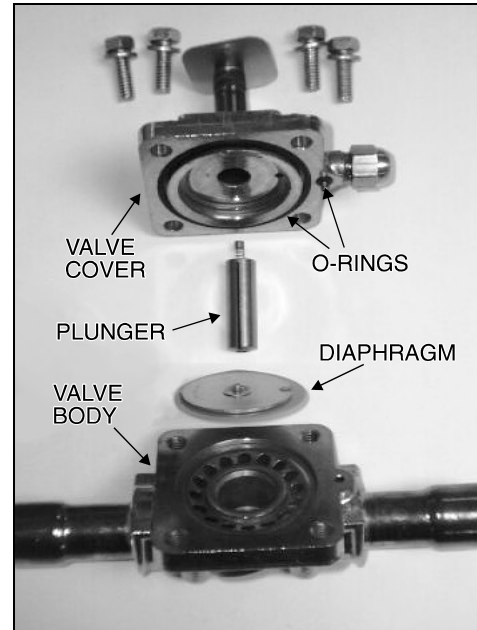

Figure 2
5. Remove the four hexagonal head screws retaining valve cover, then completely disassemble valve (refer to figure 2).
10. Reassemble valve (refer to figure 2).